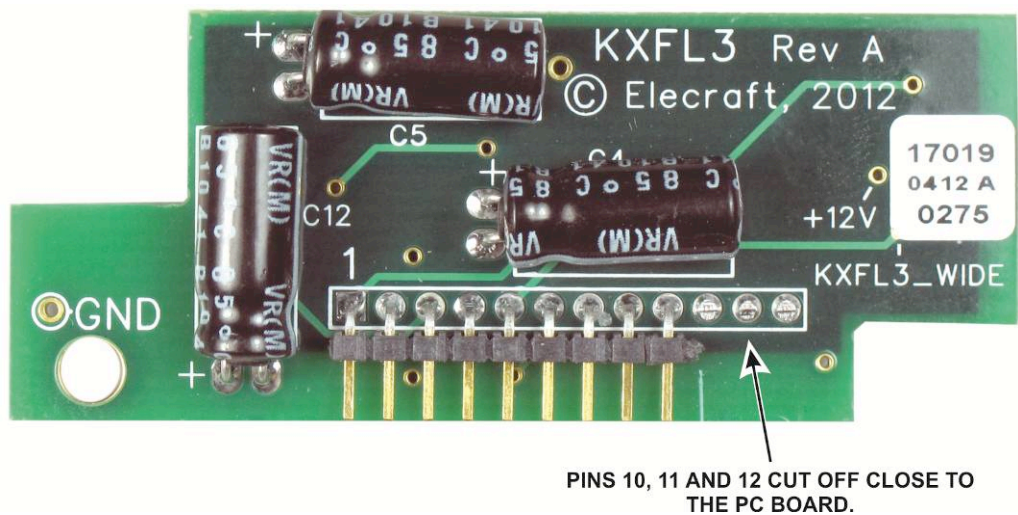

Figure 6. Pins 10, 11 and 12 Cut.
- Cut pins 10, 11 and 12 off close to the pc board as shown in Figure 6.